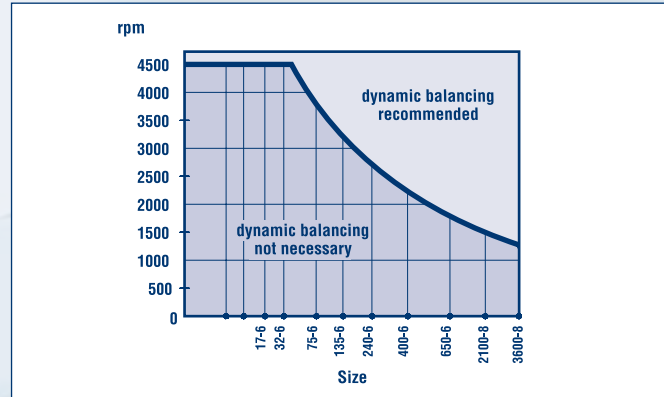

Fig. 1: H-Series
6. Use Fig.1 and 2 to verify that your coupling does or does not need to be dynamically balanced.